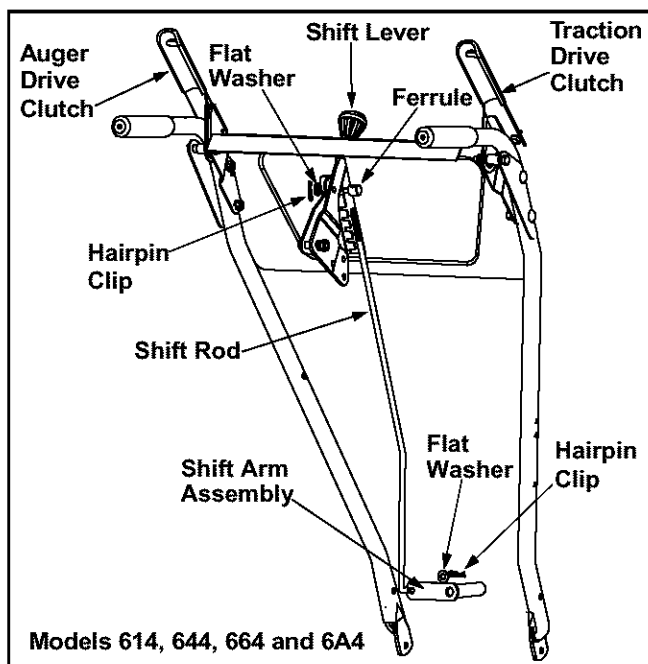

Figure 8
- **Models 614, 644, 664 and 6A4:** Rotate the shift arm assembly counter clockwise as far as it will go. Insert the shift rod through the shift arm assembly. When installed, the shift arm assembly should point left. Secure with flat washer and hairpin clip. See Figure 8. (Viewed from the operating position.)
- **Models 614, 644, 664, and 6A4:** Thread the ferrule onto the shift rod, up or down the shift rod and align with the far hole on the narrow side of the shift lever assembly behind the handle panel. See Figure 8.